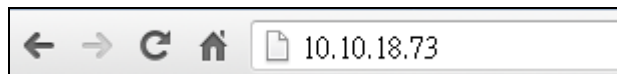

Figure 4-25: IEI iMAN Web Address
Step 3: On the remote management console, open a web browser. Enter the managed system IP address in the web browser (**Figure 4-25**).